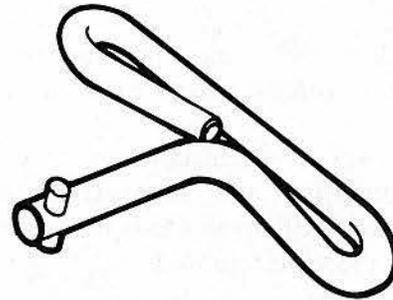

Fig. 6 – P0896911 Tool
Tool, P0896911	To unlock the door assembly. The tool is shown in Fig. 6.
5.15 The door is removed from the housing assembly as described in Chart 1. The P0896911 tool (Fig. 6) is used to unlock the door.
2	Insert P0896911 Tool (Fig. 6) in keyhole on right side. Rotate tool 1/8 turn clockwise to release right-hand bolt.